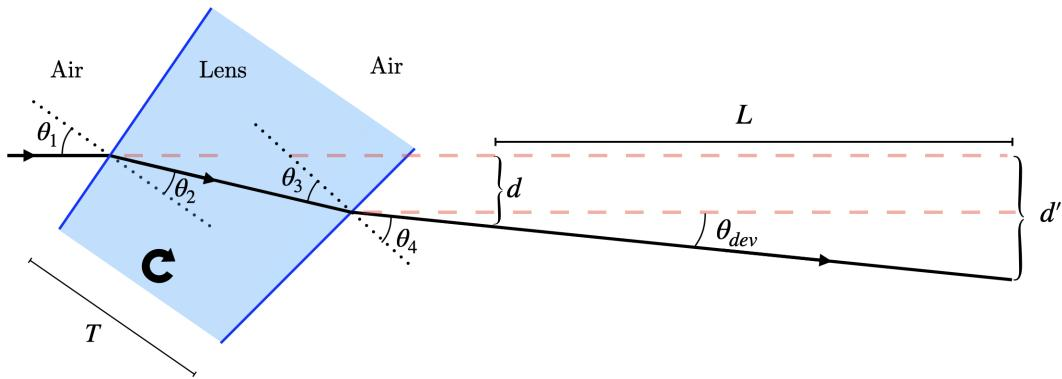

Figure 12: The lateral deviation grows from  $d$  to  $d'$  as the distance  $L$  from the lens increases.
Unfortunately, real lenses cannot be made with such precision that any two faces are exactly parallel. A real instrument will have a slight angular deviation between the incident and outgoing beams resulting from misaligned faces, as shown in Figure 12. The dashed red lines indicate the ideal displacement from the incident ray. Misalignment causes the outgoing ray to deviate by an angle  $\theta_{dev}$ .
The deviation angle is a measure of the error associated with the device for measurements at large distances. The geometry shown in Figure 12 can be used to approximate the deviation angle as
7. (1 pt) Refer to Figure 12. The distance labeled  $L$  can be taken to be the distance from the lens to the screen. As  $L$  gets small, the true lateral displacement  $d'$  approaches the ideal displacement,  $d$ . Use your left-right averaged angles  $\theta_2$  to calculate the ideal displacements using Equation 6.